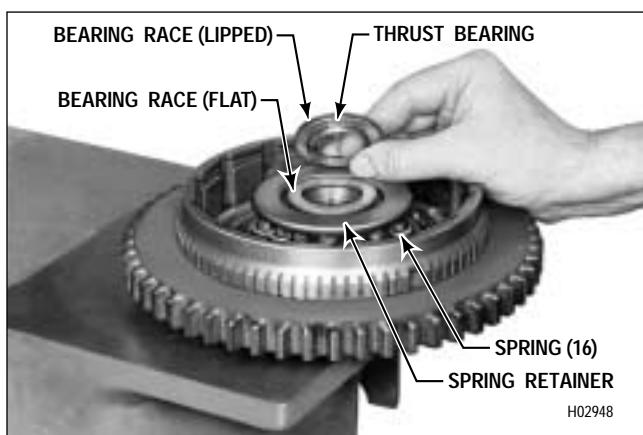

Figure 6-41. Installing Forward Clutch Thrust Bearing
(2) Install sixteen return springs 20 (Foldout 8) into their pockets in the piston (Figure 6-41). Install the spring retainer, recess side first, onto the springs.
(3) Place the clutch assembly in a press, spring retainer upward. Lay snapring 22 (Foldout 8) in its approximate installed position on spring retainer 21.
(5) Install the flat bearing race onto the hub of the forward clutch housing (Figure 6-41). Install the thrust needle bearing and the lipped bearing race so that it encloses the bearing. Retain the bearing and races with oil-soluble grease.